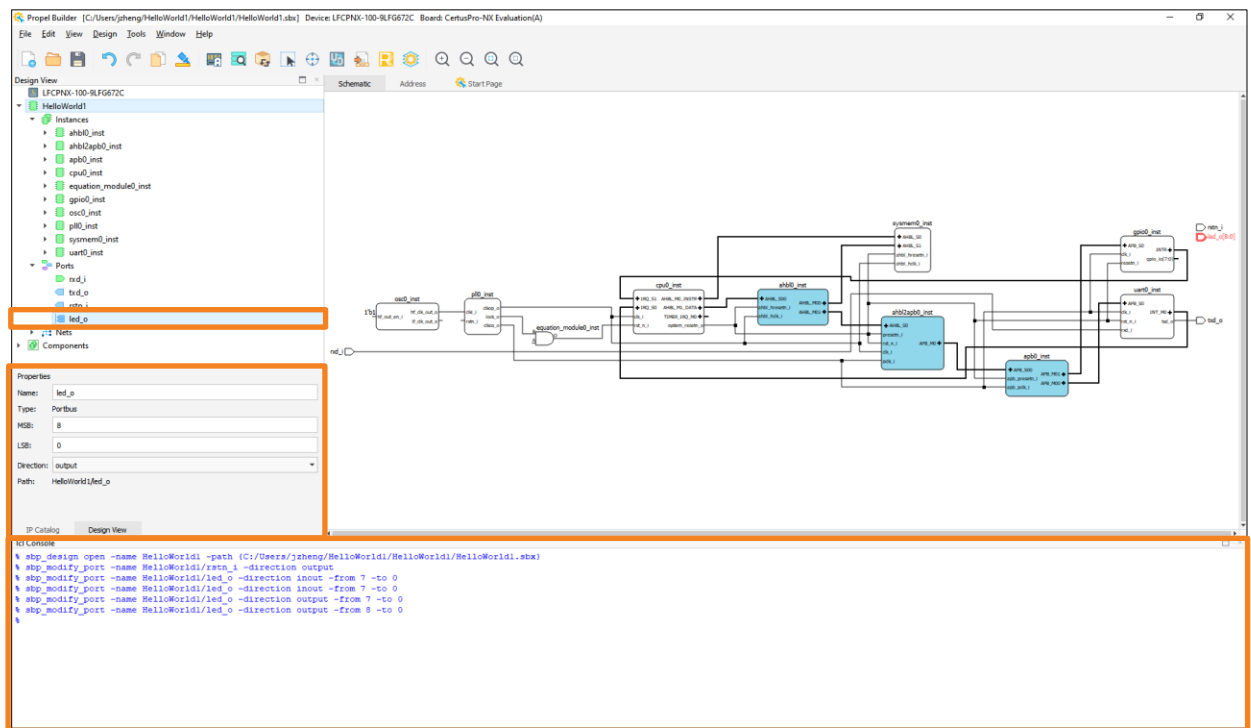

Figure 2.124. PortBus Direction
- e. PortBus MSB, LSB and direction can be modified. Click on PortBus and then use the drop-down menu to choose the desired direction (Figure 2.124).